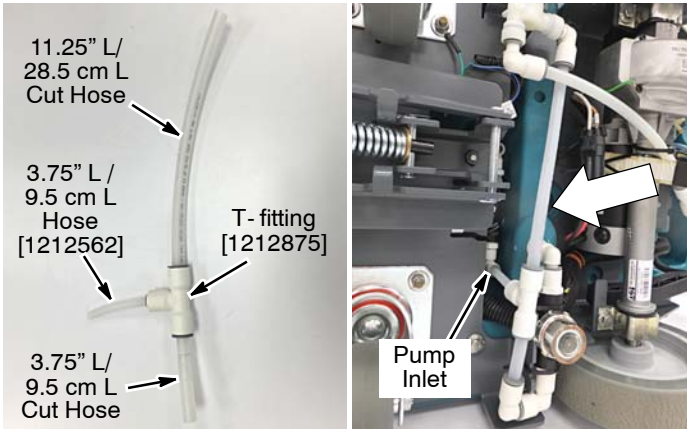

Fig. 30
- Using the removed hose from Step 3, cut the hose into two hose lengths (11.25"/28.5 cm and 3.75"/9.5 cm). Assemble hoses with kit hose and T-fitting as shown. Connect the hose assembly to solution system as shown (Figure 30).